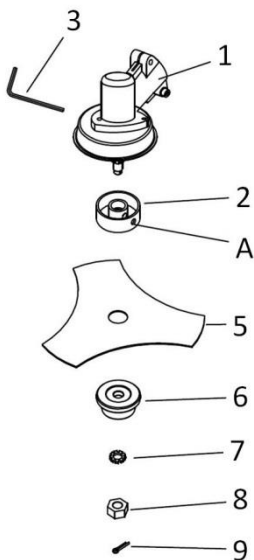

Fig. 12
- **Fastening:** As shown in Fig. 12, insert the centering ring (2) on the threaded shaft out of the gear head (1) and then mount the disc on the ring (5), then insert the disc mounting bracket (6), the knurled washer (7) and secure with nut (8). Insert the safety pin (Item 9) into the nut to prevent loosening.